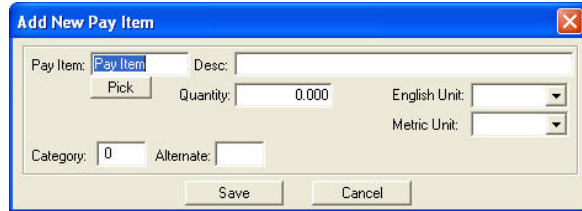

Figure 2.8
*Overview:* After you have created your job and are at the Main Spreadsheet Screen, there may be times when you just need to add one or two pay items, or there may be a pay item that is not in the Pay Item Database. In these circumstances, the only method available is to use the “Add Pay Item” menu option on the main spreadsheet screen. This option allows you to add pay items to the project one at a time. From the Main Spreadsheet Screen, select the “Add Pay Item” option on the Edit menu. You will see the screen shown in figure 2.8. Each of the options on this screen is explained below.